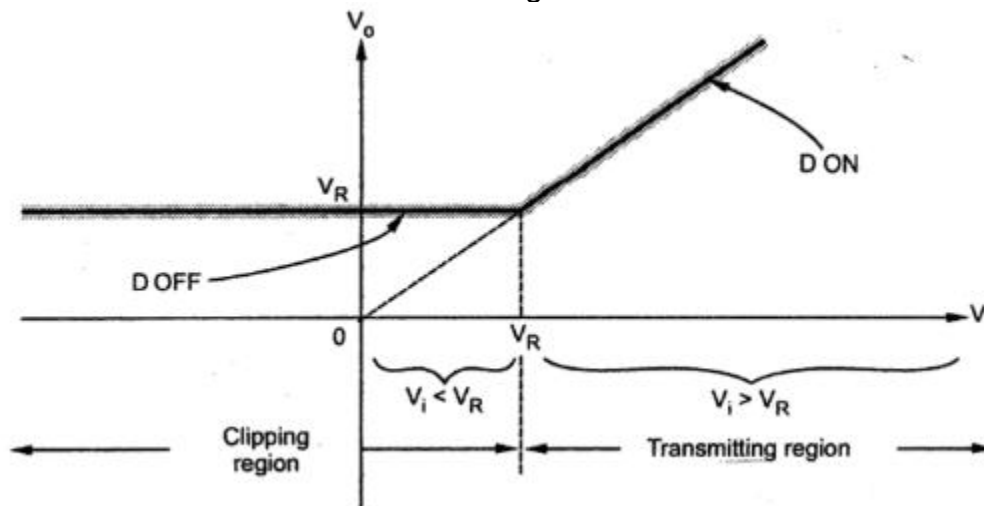

Fig. 1.57 Transfer characteristics
- The transfer characteristic is shown in the Fig. 1.57.